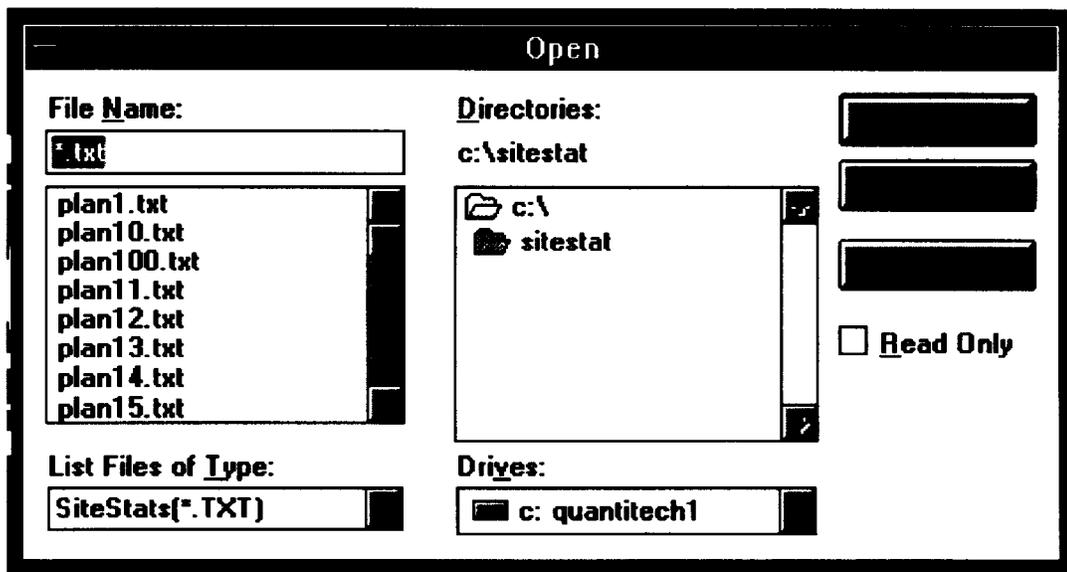

Figure 3.3-1. Opening Saved Data
- \* A dialog box, similar to the one shown in Figure 3.3-1, appears allowing the user to switch drives and/or directories.